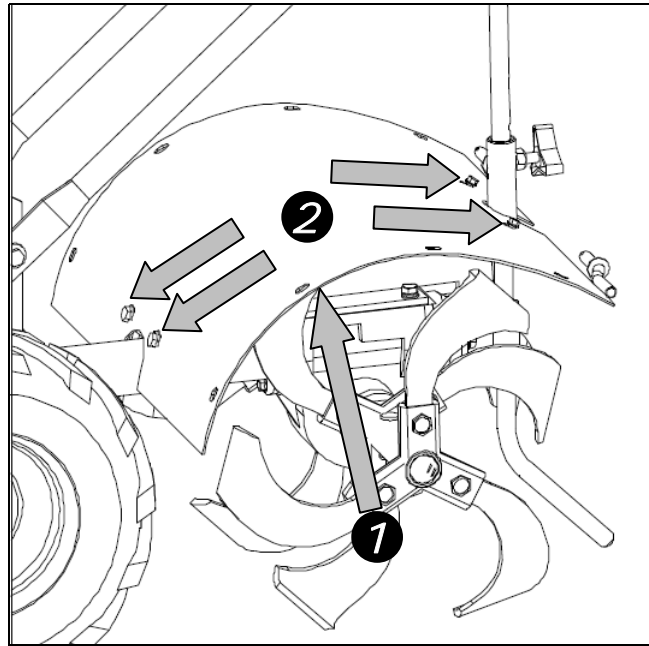

Fig.6
### STEP4 Assemble the rear top cover (Fig.6)
- 1.put the top cover ①(Fig.6) on the bracket;
- 2.Tight the top cover by four bolts ②(Fig.6).